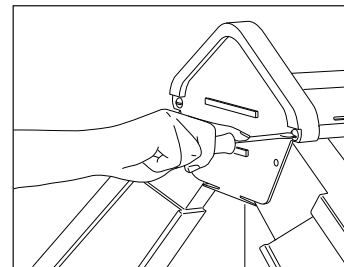
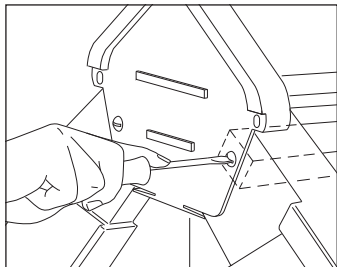
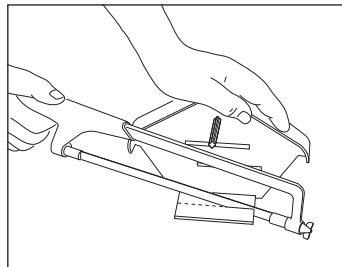

Fig. 7 – Screw fix ridge end cap
Fig. 8 – Screw ridge end cap
Fig. 9 – Cutting end cap flange
- 14 If required, trim flange of ridge end cap to fit between top course verge units (Figs. 9 and 10, page 122). Screw ridge end cap to end of dry ridge batten locating 25mm x 8g stainless steel screws into end of circular beads on upper flange (Fig. 7).
- 16 If required, trim flange of ridge end cap to fit between top course verge units (Figs. 9 and 10). Screw ridge end cap to top course verge unit, locating stainless steel screws through lower, partly formed fixing holes (Fig. 8).